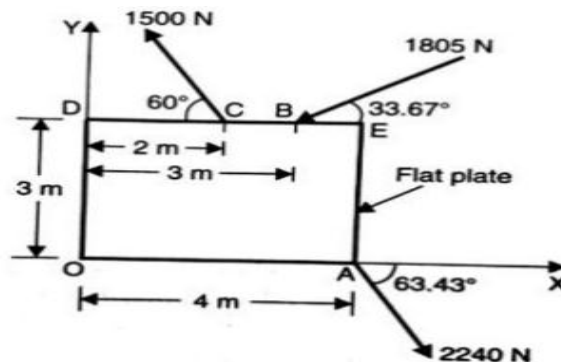

Figure.1
- Coplanar system of force is acting on a flat plate as shown in Figure 1. Determine i) the resultant and ii) x and y intercepts of the resultant. [4+6]